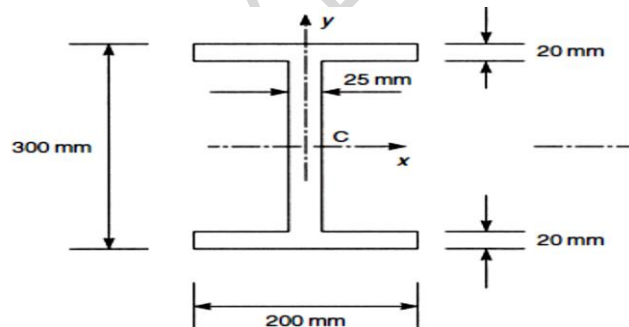

Fig.1
- b) The cross-section of a beam has the dimensions shown in Fig.1. If the beam is subjected to a negative bending moment of 100 kN m applied in a vertical plane, determine the distribution of direct stress through the depth of the section.